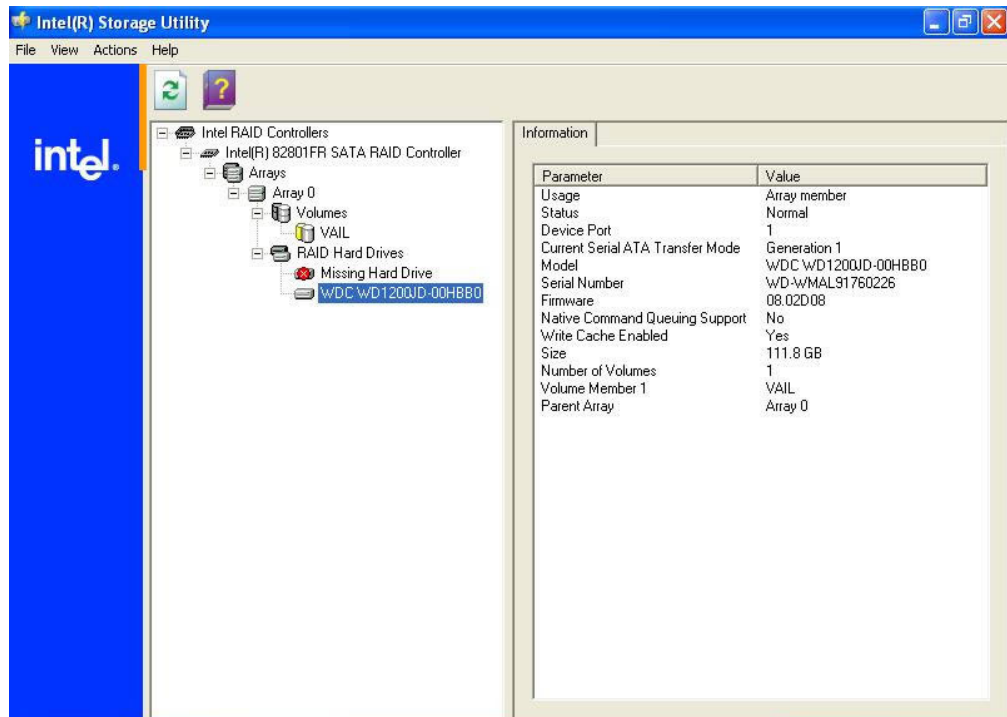

Figure 64. Disk drive failure
1. From the Microsoft Windows Task bar, click on the RAID icon. This icon is present only if abnormal activity occurred, such as a failed drive, and during an array rebuilding. The Intel Storage Utility (see Figure 64 on page 76.) opens.
2. Determine which hard disk drive has failed by opening the *detected* hard drive (see Figure 64). In the example, the detected hard drive's Device Port is 1; therefore, the failed hard drive is located on Device Port 0.